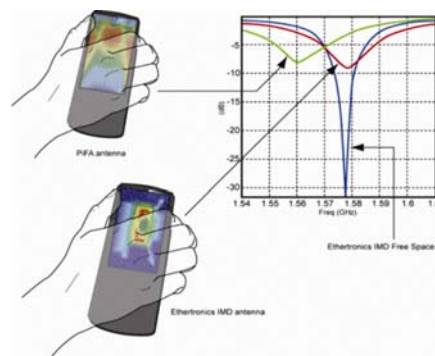

Figure 2
4. The distance from the antenna to relatively large perturbations, such as a nearby shield or large components, is referred to as **"Antenna – Shield" distance**. This distance is dependent on the height of surrounding components, but should not be less than 1.5mm. See Figure 2.